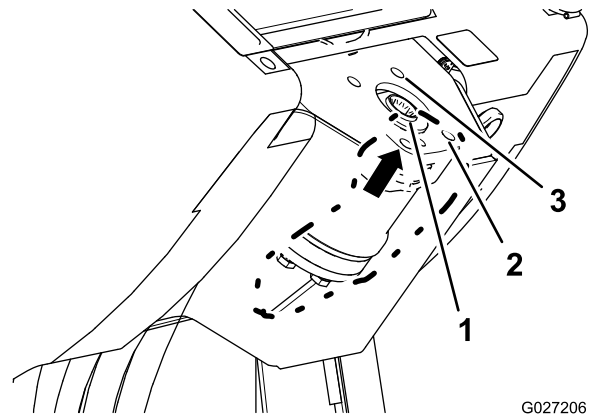

Figure 7
1. Push the steering valve up and align the threaded holes in the steering valve with the holes in the steering support (Figure 7).